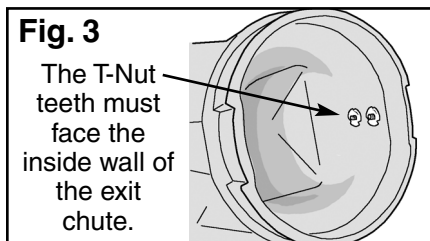
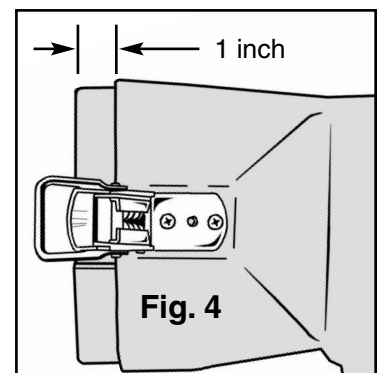

Fig. 3
Fig. 4
Step 4: See figure 3. From the inside of the exit chute, position the two T-Nuts with the teeth facing the plastic and the threaded barrel inside the 1/4 inch hole. Install the latch with two 10-24 machine screws and tighten them until the teeth of the T-Nuts firmly bite into the plastic. Completed latch installation looks like figure 4.
Step 7: After you have successfully installed the latches and checked out the connection from the steel collar to the latches, you may want to shorten the end of the exit chute. This makes it easier to snap the steel collar on and off. Just use a carpenter's hand saw. The new length of the exit chute should be about 1 inch past the shoulder. See figure 4.